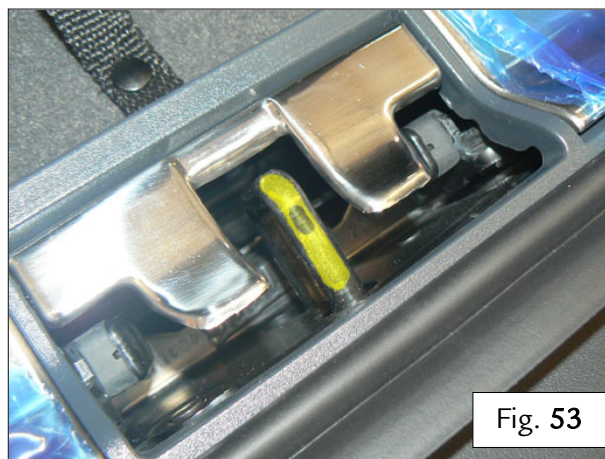

Fig. 53
- Close the luggage compartment lid, then reopen and photograph the position of the mark left on the hook by the luggage compartment lid lock (Fig. 53).